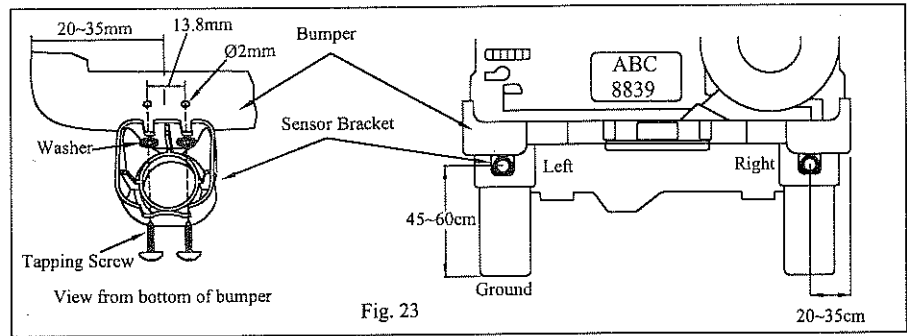
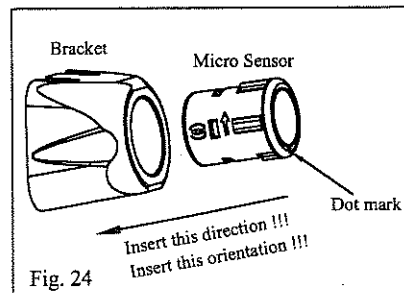

Fig. 23
Fig. 24
1. Measure from both corners of the rear bumper and mark a horizontal distance of 20cm ~ 35cm for both left and right sensors. (Fig. 23)
2. Measure from the ground level a distance of 45cm ~ 60cm to indicate the final position of the sensors. (Fig. 23)
4. Drill two 2mm diameter through holes on the bumper marking. The distance between the holes is 13.8mm. (Fig. 23)
5. Use tapping screws to secure the sensor brackets to the rear bumper. (Fig. 23)
6. Insert the left and right sensors into the sensor brackets respectively. (Fig. 23 & Fig. 24)